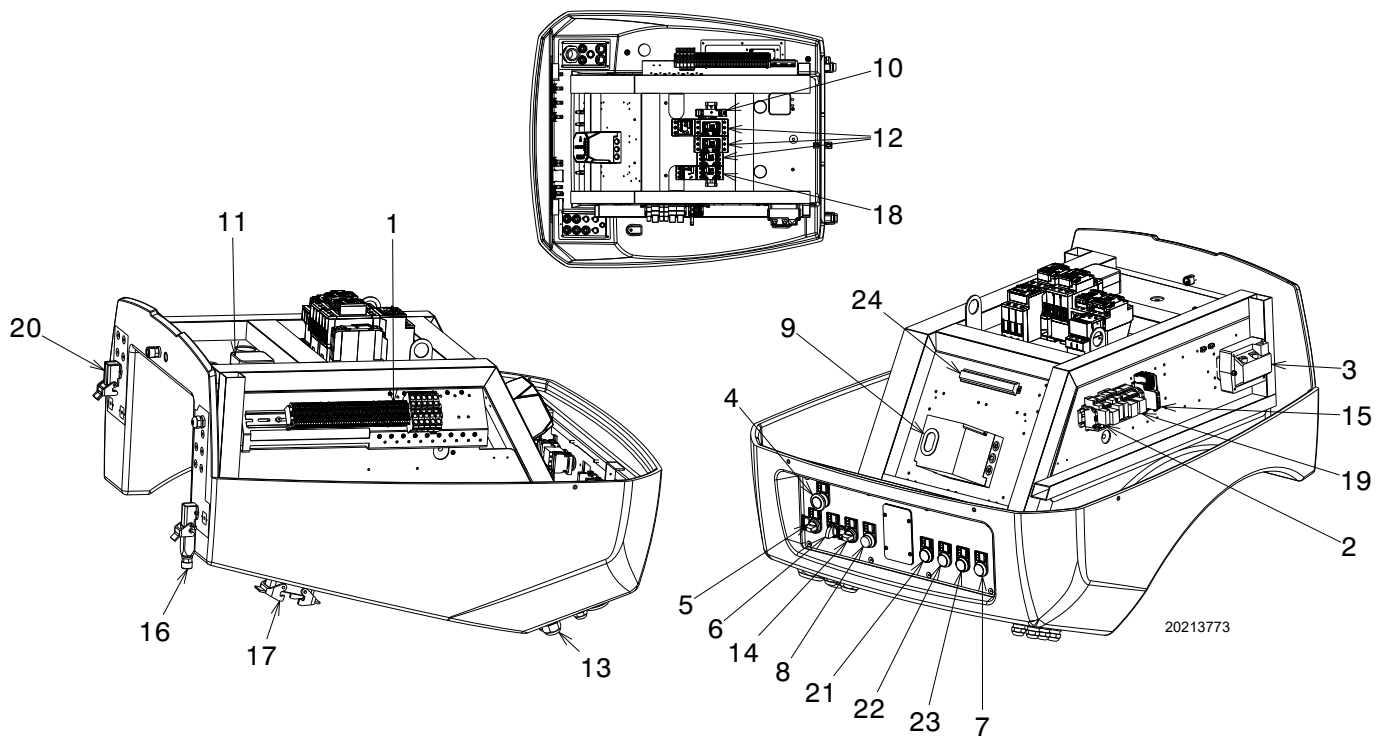

Fig. 5
- **Flame control lockout:** if the button (red LED) of flame control 9)(Fig. 5) and signal button 8) light up, the burner is locked out.